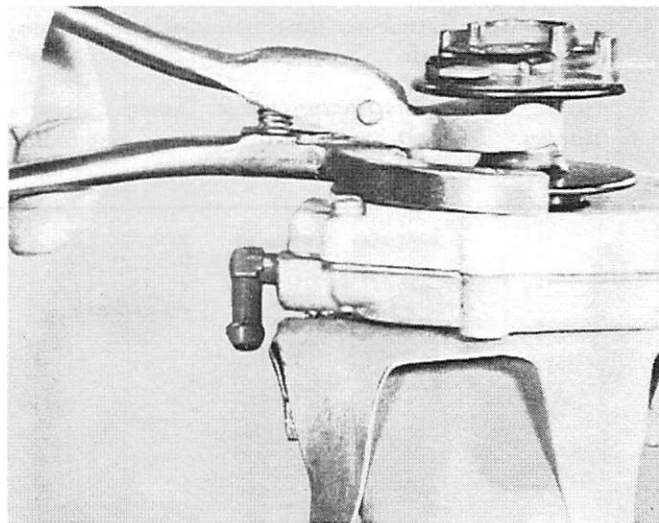

Figure 2. Removing Rotor
4. Pull distributor rotor off distributor shaft. (Figure 2)